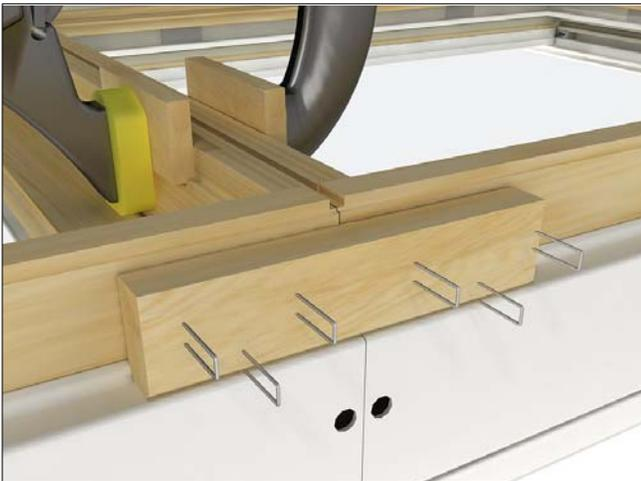

Figure 7
- Remove the wood standing blocks at the sills near the mullion. Center mull tie block at junction points and attach with four 3/16"x1" 18 gauge staples into each unit. See figure 7.